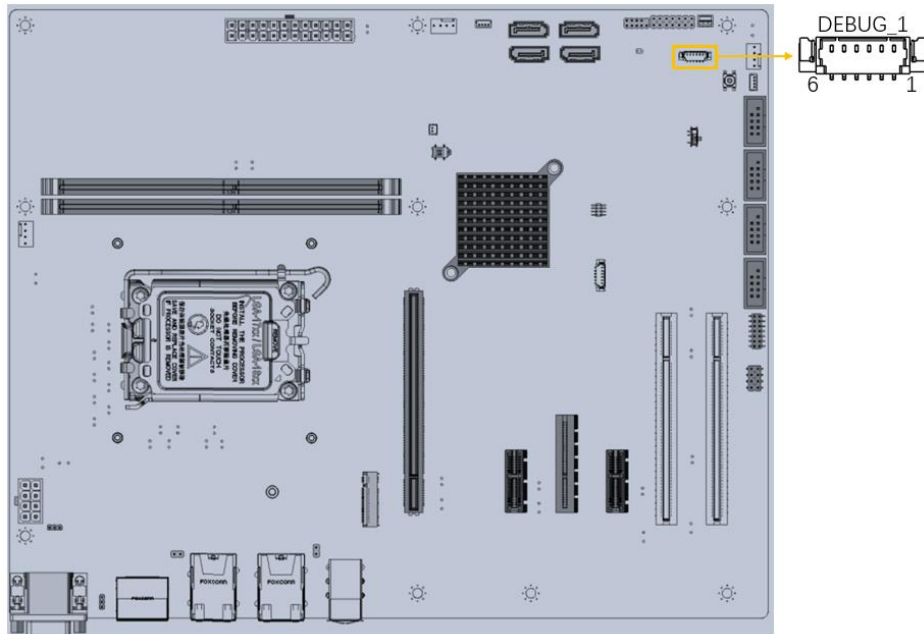

Figure 3-13: EC Debug Connector Location
- CN Location:** See **Figure 3-13**